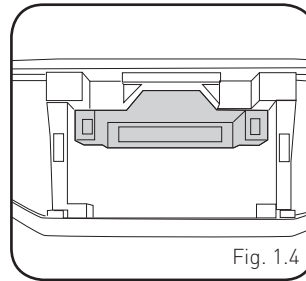

Fig. 1.4
- To make room for the aftermarket radio, trim subdash and dash cavity as necessary. (Fig. 1.4)